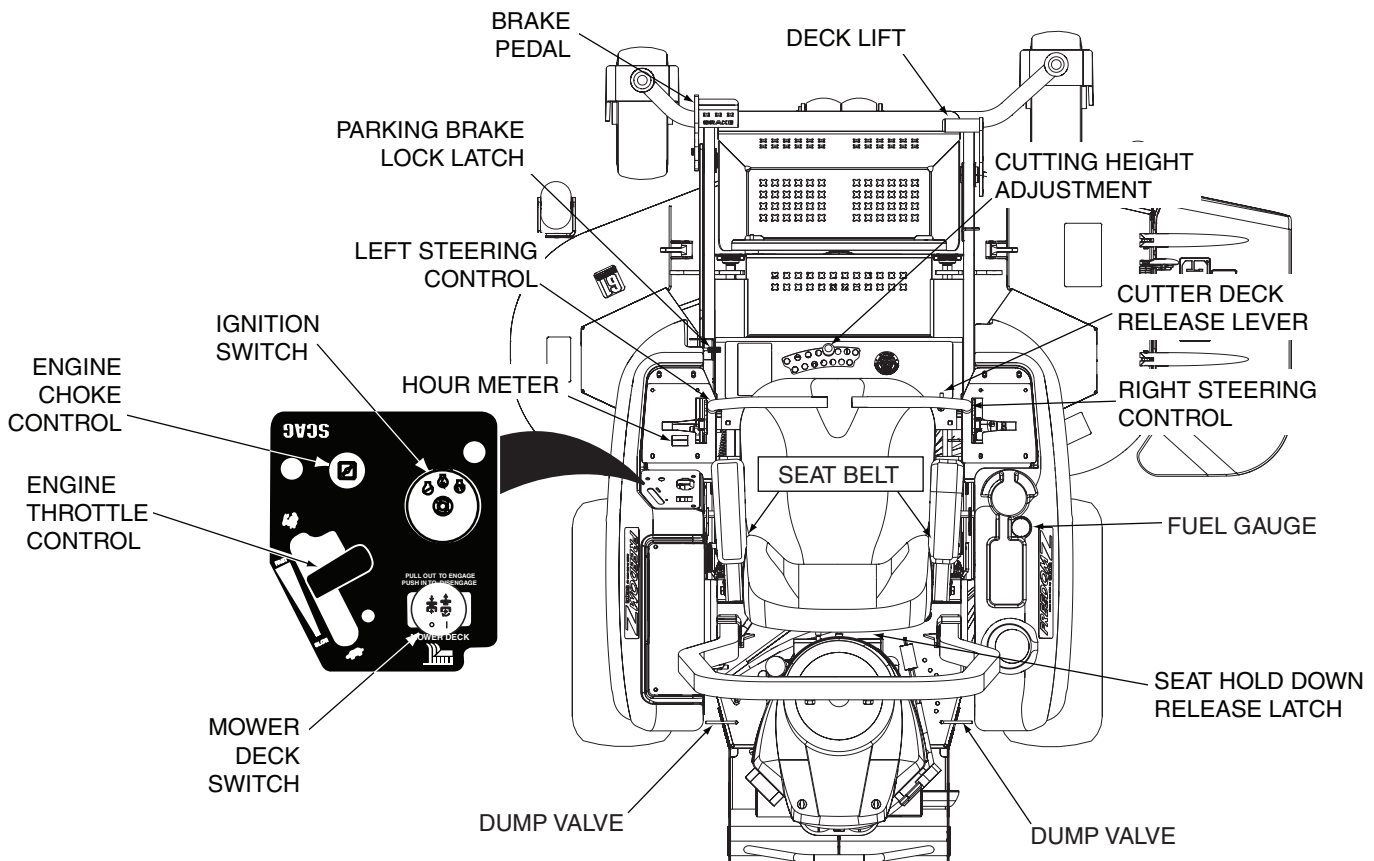
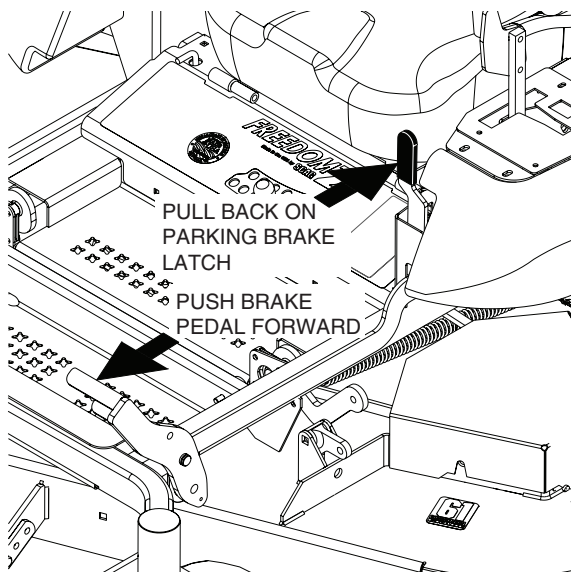
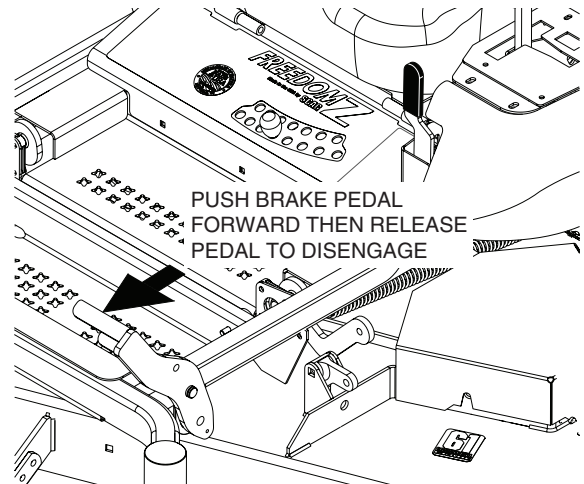

Figure 4-1. Controls and Instruments
Figure 4-2. Engaging the Parking Brake
Figure 4-3. Releasing the Parking Brake
- 1. Ignition Switch (Figure 4-1).** The ignition switch is used to start the engine and has three positions; OFF, ON, and START.
- 2. Mower Deck Switch (Figure 4-1).** Used to engage and disengage the mower drive system. Pulling up on the switch will engage the deck drive. Pushing down on the switch will disengage the deck drive.
- 3. Engine Choke Control (Figure 4-1).** Used to start a cold engine.
- 4. Engine Throttle Control (Figure 4-1).** Used to control the engine speed. Pushing the lever forward increases engine speed. Pulling the lever back decreases engine speed. Full back position is the IDLE position. Full forward is the cutting position.
- 5. Fuel Gauge (Figure 4-1).** Indicates the amount of fuel in the fuel tank.
6. **Hourmeter (Figure 4-1).** Indicates the number of hours the engine has been operated. It operates whenever the ignition key switch is in the ON position. Has preset maintenance reminders for engine and hydraulic system oil changes. Will start flashing scheduled maintenance 2 hours before preset time and continue flashing until 2 hours after. Automatically resets.
7. **Fuse Holders (Figure 4-1).** Two 20-amp fuses protect the mower's electrical system. To replace fuses, pull fuse out of the socket and install a new fuse.
8. **Left Steering Control (Figure 4-1).** Used to control the mower's left wheel when traveling forward or reverse.
9. **Right Steering Control (Figure 4-1).** Used to control the mower's right wheel when traveling forward or reverse.
10. **Brake Pedal (Figure 4-1).** Depressing the brake pedal applies the brake.
11. **Parking Brake Lock Latch (Figure 4-1).** Used to lock the parking brake in the engaged position. Fully depress the brake pedal and pull the parking brake lock latch back to lock the parking brake in the engaged position. See Figure 4-2. Fully depress the brake pedal forward to disengage the parking brake lock latch, then release the brake pedal to disengage the brake. See Figure 4-3.
13. **Deck Lift Foot Lever (Figure 4-1).** Used to raise and lower the cutter deck.
14. **Cutting Height Adjustment (Figure 4-1).** Used to set the cutter deck at the desired cutting height.
15. **Deck Release Lever (Figure 4-1).** Used to lock the cutter deck in the transport position. Push the foot pedal forward and pull back on the release lever to release the cutter deck for normal mowing.
16. Seat Belt (Figure 4-1). Used to secure the operator. Seat belt must be worn at all times during operation.
17. Seat Hold Down Release Latch (Figure 4-1). Located behind the seat. Used to secure the seat in the operator's position. Release the latch to gain access under the seat.
Do not travel forward over a curb. The mower will hang up on the curb. Raise the deck and travel backwards over the curb at a 45 degree angle. (See Figure 4-1 item 12 for cutter deck raising description.)
To stop the reverse travel, allow the steering control levers to return to the neutral position. If the mower is to be parked, place the handles in the neutral lock position, fully depress the brake pedal and pull back on the parking brake lock latch to engage the parking brake. See Figure 4-2.
5. Fully depress the brake pedal and pull the parking brake lever back to engage the parking brake. See Figure 4-2.